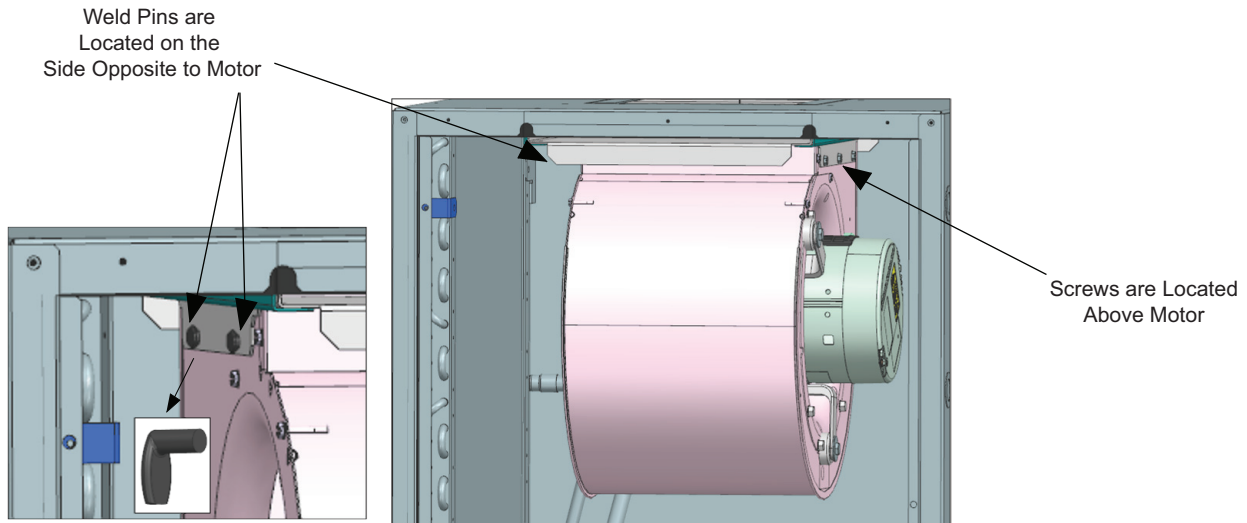

Fig. 60 — Vertical Units Blower Assembly
3. Remove the three screws positioned above the motor. See Fig. 60.
4. Drop down and slide off the welded pins situated on the opposite side from the motor. See Fig. 60.